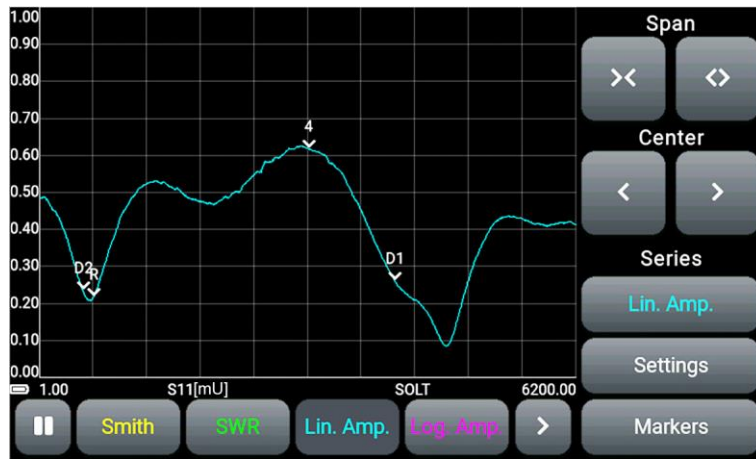

Figure 9.16 - Menu for setting the plots displayed on the screen
9.10.1. Exit the main menu of the device by pressing the button (6) once. Select the plot and click **Controls**. The plot management menu appears on the screen, as shown in Figure 9.16.